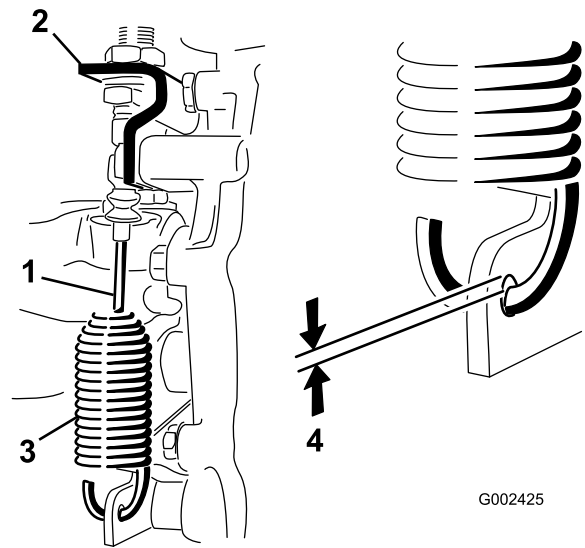

Figure 53
2. Loosen the jam nuts securing the differential-lock cable to the bracket on the transaxle (Figure 53).